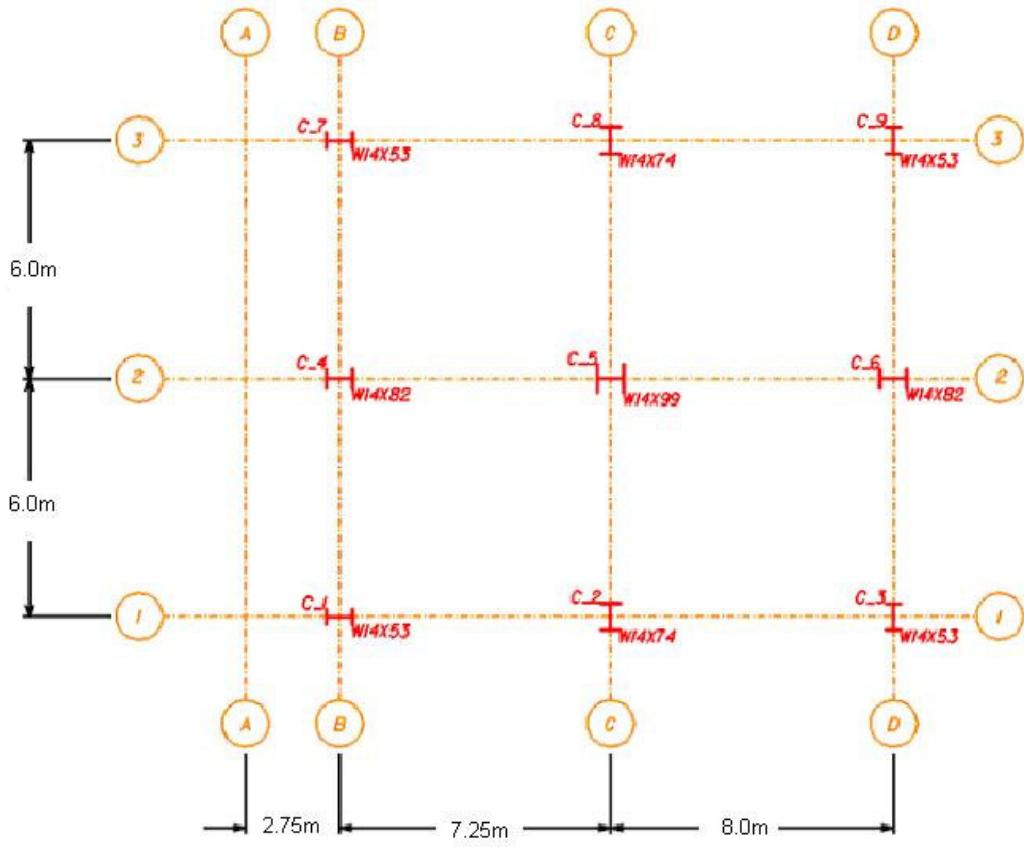

Figure 2 – Floor Plan U03
12. Multi-select the appropriate columns and use the SmartStep ribbon bar to change section size and the orientation as shown in figure 2.